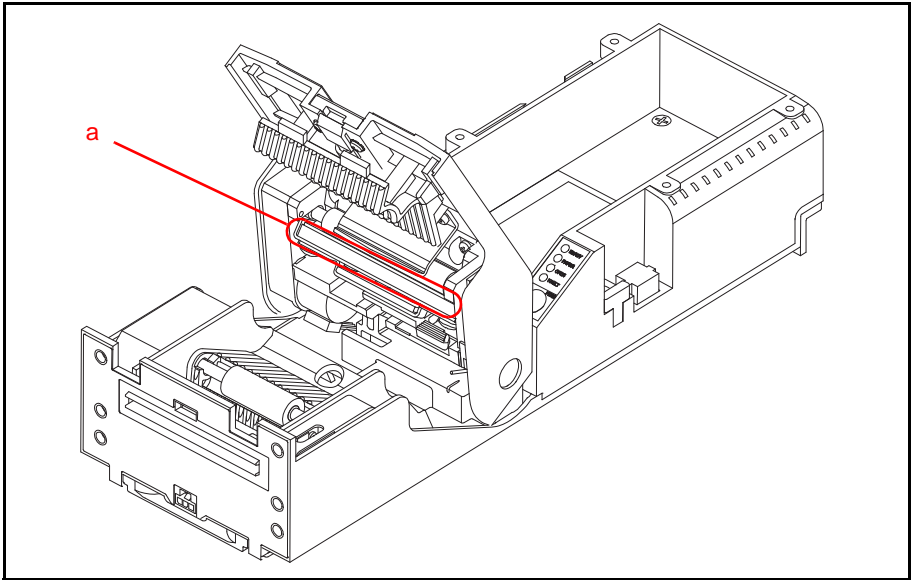

Figure 6 Clean Print Head
4. Wipe the Print Head surface (Figure 6 a) clean using a new cleaning swab.